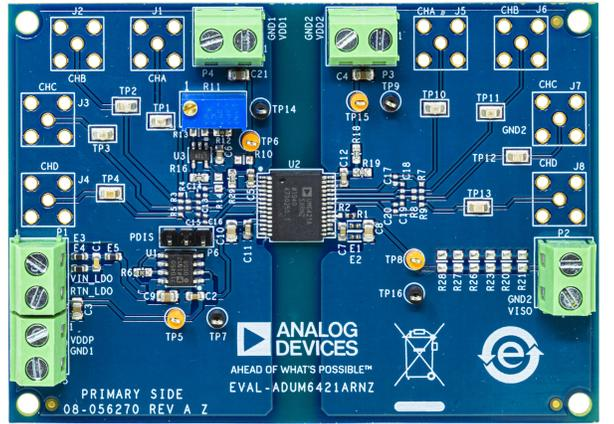
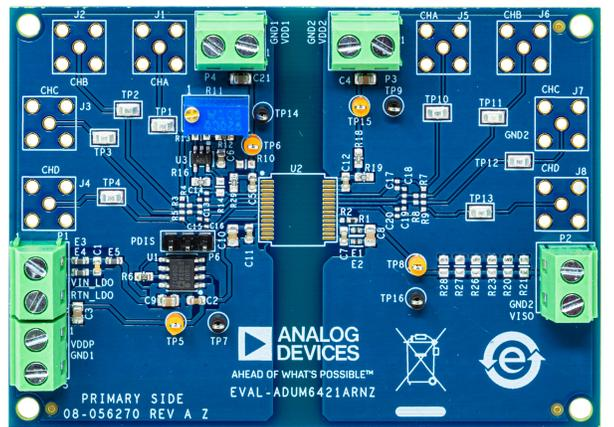
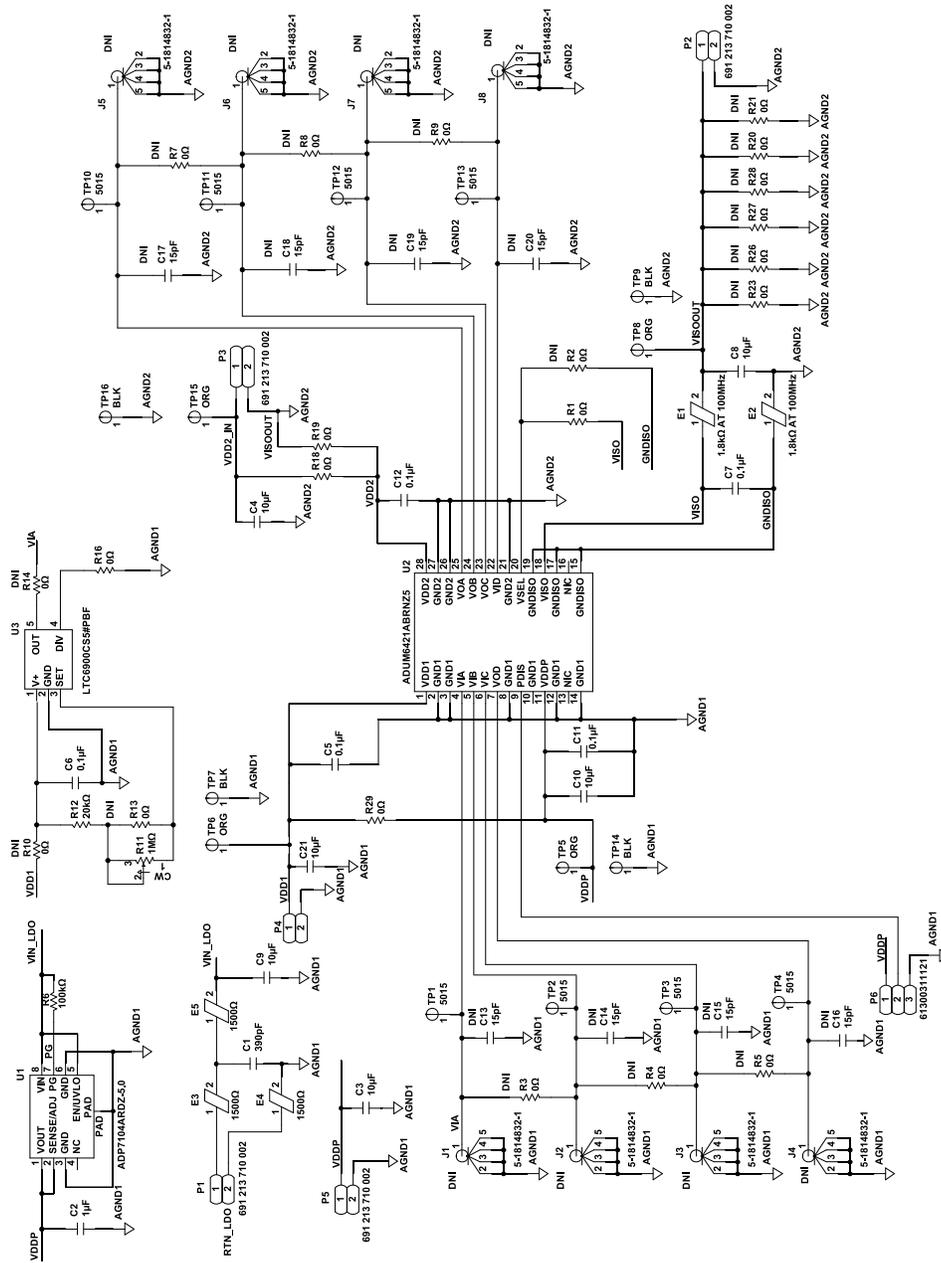

Figure 1. EVAL-ADUM6421ARNZ
Figure 2. EVAL-ADUM6421AURNZ
Figure 6. EVAL-ADUM6421ARNZ/EVAL-ADUM6421AURNZ Schematic
Figure 1 and Figure 2 show the EVAL-ADUM6421ARNZ and EVAL-ADUM6421AURNZ, respectively. The ADuM6221A and ADuM6420A/ADuM6421A/ADuM6422A/ADuM6423A/ADuM6424A can be powered directly or by the on-board low dropout (LDO) regulator. Either power scheme can be used without modification to the evaluation boards. The LDO input supply and return, Pin 1 and Pin 2, respectively, of Screw Terminal P1 (marked VIN\_LDO and RTN\_LDO in Figure 6), requires a power supply voltage of 6 V to 9 V. The LDO supply input is filtered by a ferrite bead network. The LDO generates the required 5 V to the ADuM6221A and ADuM6420A/ADuM6421A/ADuM6422A/ADuM6423A/ADuM6424A  $V_{DDP}$  pin. A 9 V battery can power the evaluation boards (when testing for electromagnetic compatibility (EMC), for example). Alternatively, the ADuM6221A and ADuM6420A/ADuM6421A/ADuM6422A/ADuM6423A/ADuM6424A can be powered directly with a 5 V supply through Pin 1 of Screw Terminal P5 (marked VDDP in Figure 6).
In both power schemes, the power supply return connects to Pin 2 of Screw Terminal P1 or P5 (marked AGND1 in Figure 6).
- ▶ Connect the  $V_{ISO}$  load (shown in Figure 6) using a PCB trace. Do not connect the  $V_{ISO}$  load to a power plane.